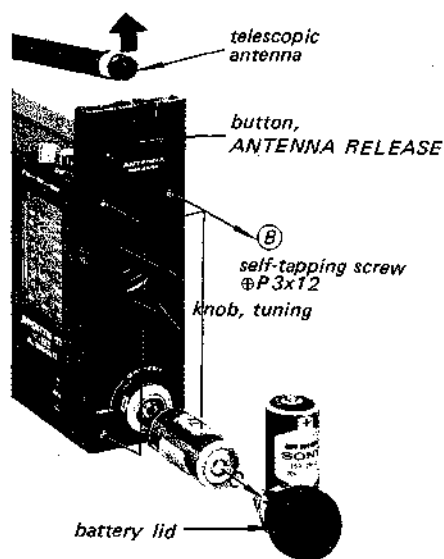

Fig. 2-2.
1. Press down the ANTENNA RELEASE button shown in Fig. 2-2.
3. Remove the four screws labeled (B) in Fig. 2-2.
4. Pull off the right side cover with the tuning knob and battery lid as shown in Fig. 2-2.